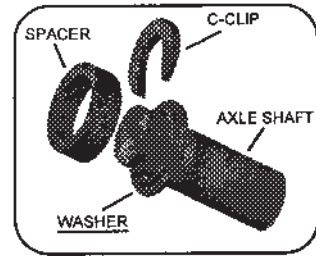

Figure 2
7. Seat the washer onto the face of the coupler, line up the c-clip groove on the axle shaft with the slot on the driver and insert the c-clip between the washer and spacer (Figure 2) onto the axle shaft.